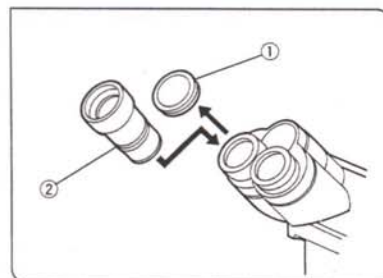

Fig. 8
(Fig. 8)
1. Remove the eyepiece cap ①.
2. Insert the eyepieces ② into the eyepiece sleeves as far as they will go. (Fig. 8)